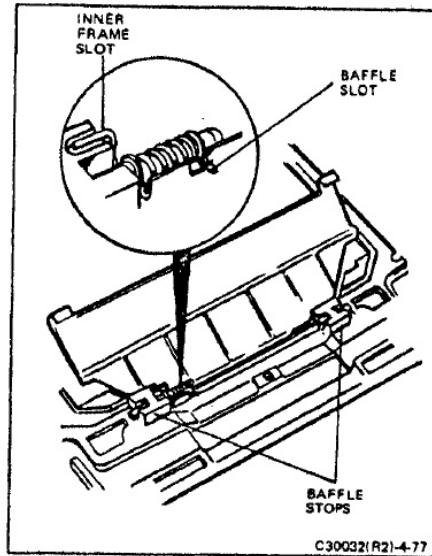

FIGURE 4-77 BAFFLE HINGE SPRING
4. Refer to Figure 4-77. Install the spring on the right-hinge pin.
5. Engage the shorter of the two spring extensions into the slot on the lip of the baffle (Figure 4-77).
6. Use a dental pick or other suitable tool and hook the longer spring extension into the slot provided for it on the inner frame (Figure 4-77). Check the spring action of the baffle. It must be completely free – no evidence of binding is tolerable. Also, when in the raised position, the baffles should rest uniformly on the baffle stops of the inner frame.